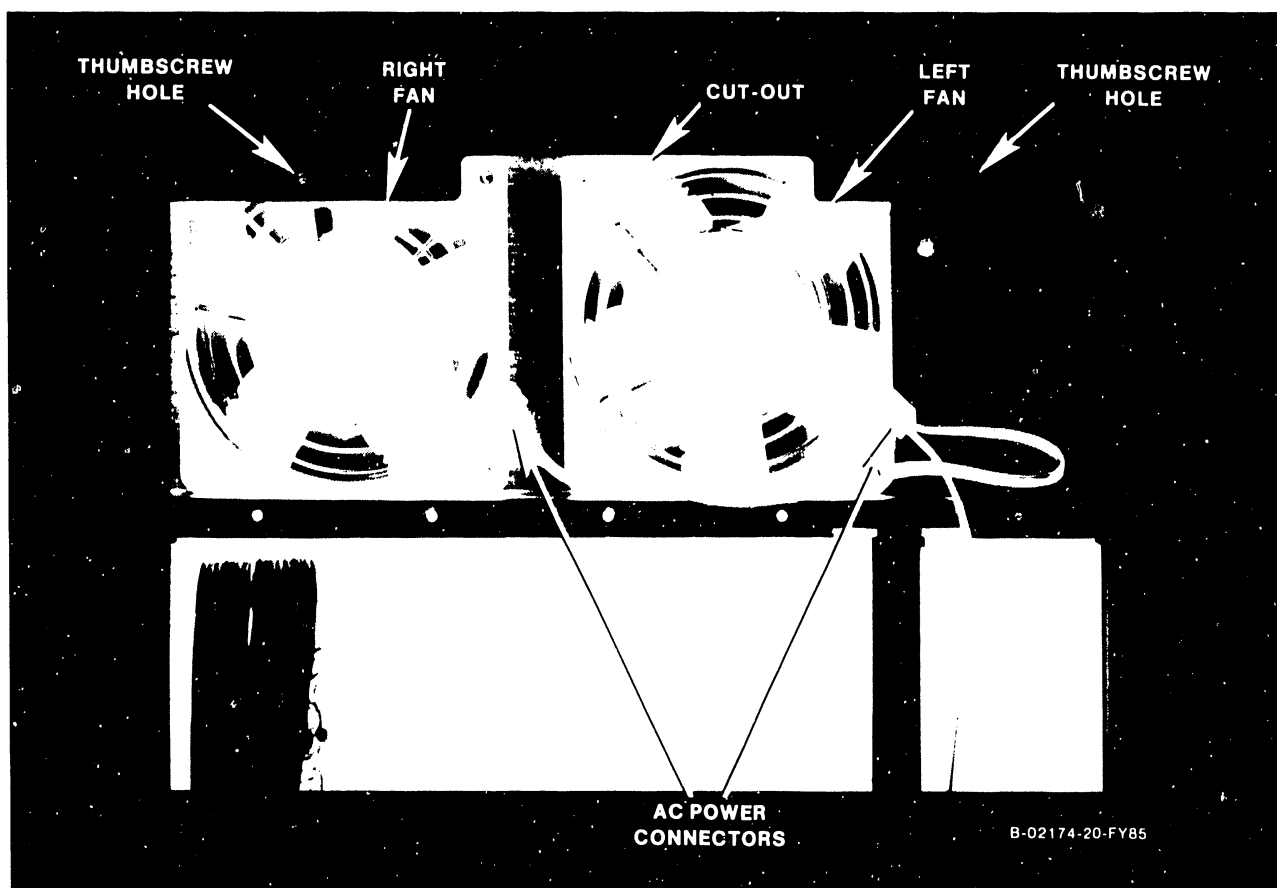

Figure 5-51. Fan Panel Assembly (Inside View)
6. Disconnect the ac power connector(s) at the fan(s). (Figure 5-51.)